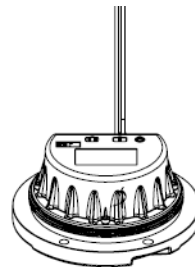

Figure 5-11
- Close the inner cover and screw the screws (see Figure 5-11).